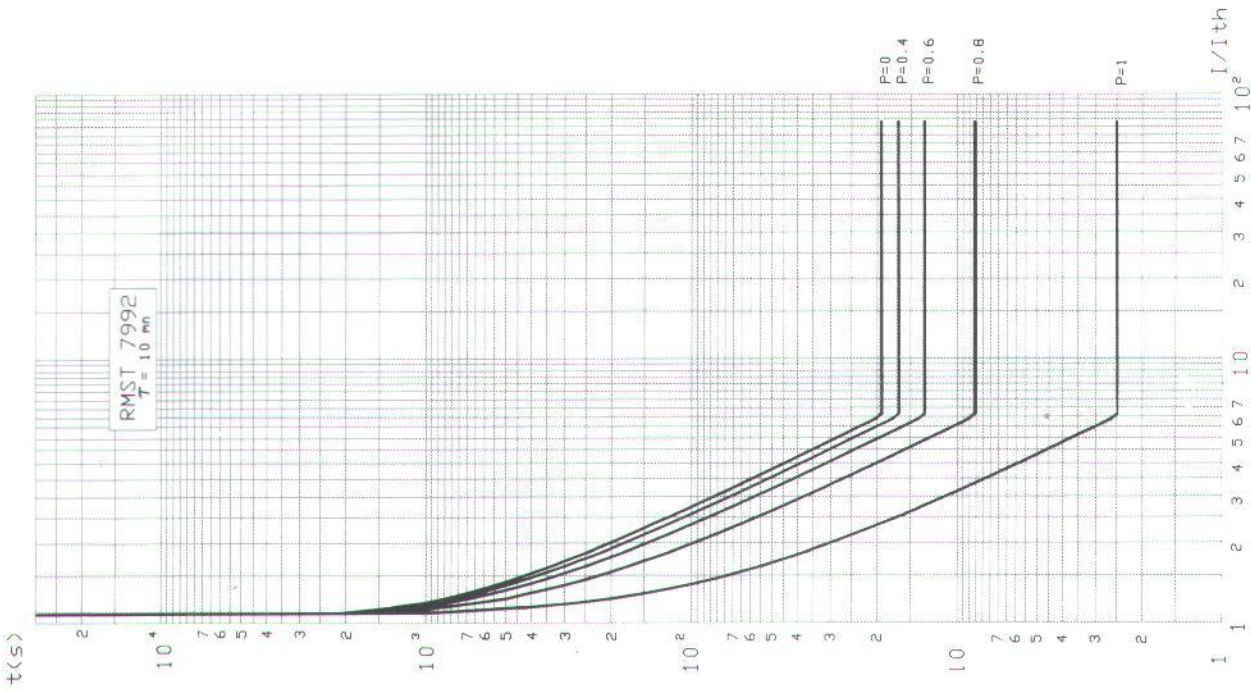

Fig. 5 - RMST 7992 - Thermal unit curve - IEC 255-8
according to cold and hot characteristic curves (figure 5)
- Operating curves according to IEC 255-8 (see figure 5)